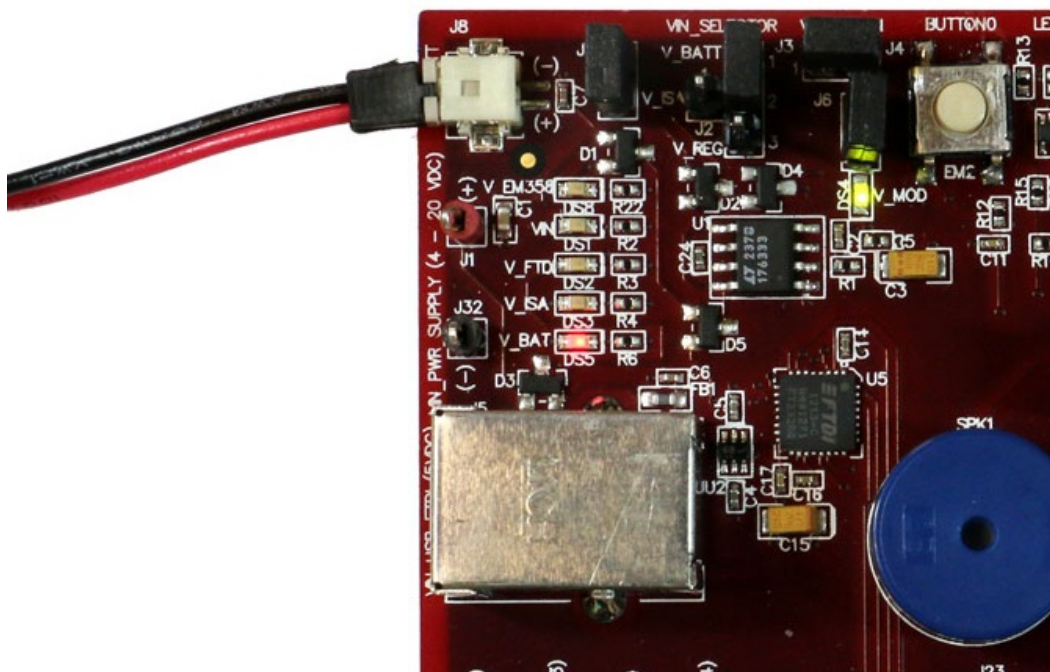

Figure 10. Breakout Board Power Supplied by Battery Connector
- Breakout Board Power Supplied by Battery Connector (Figure 10): The Breakout Board may also be powered via the battery connector (J8), using the supplied battery pack and 2x AAA batteries. The power supply jumper should be in the upper vertical position, connecting V_BATT to the center pin. The V_BAT LED (DS5) will illuminate when power is applied. When powering the Breakout Board in this way, ensure the power switch on the Debug Adapter (ISA3) is in the EXT (External) position.